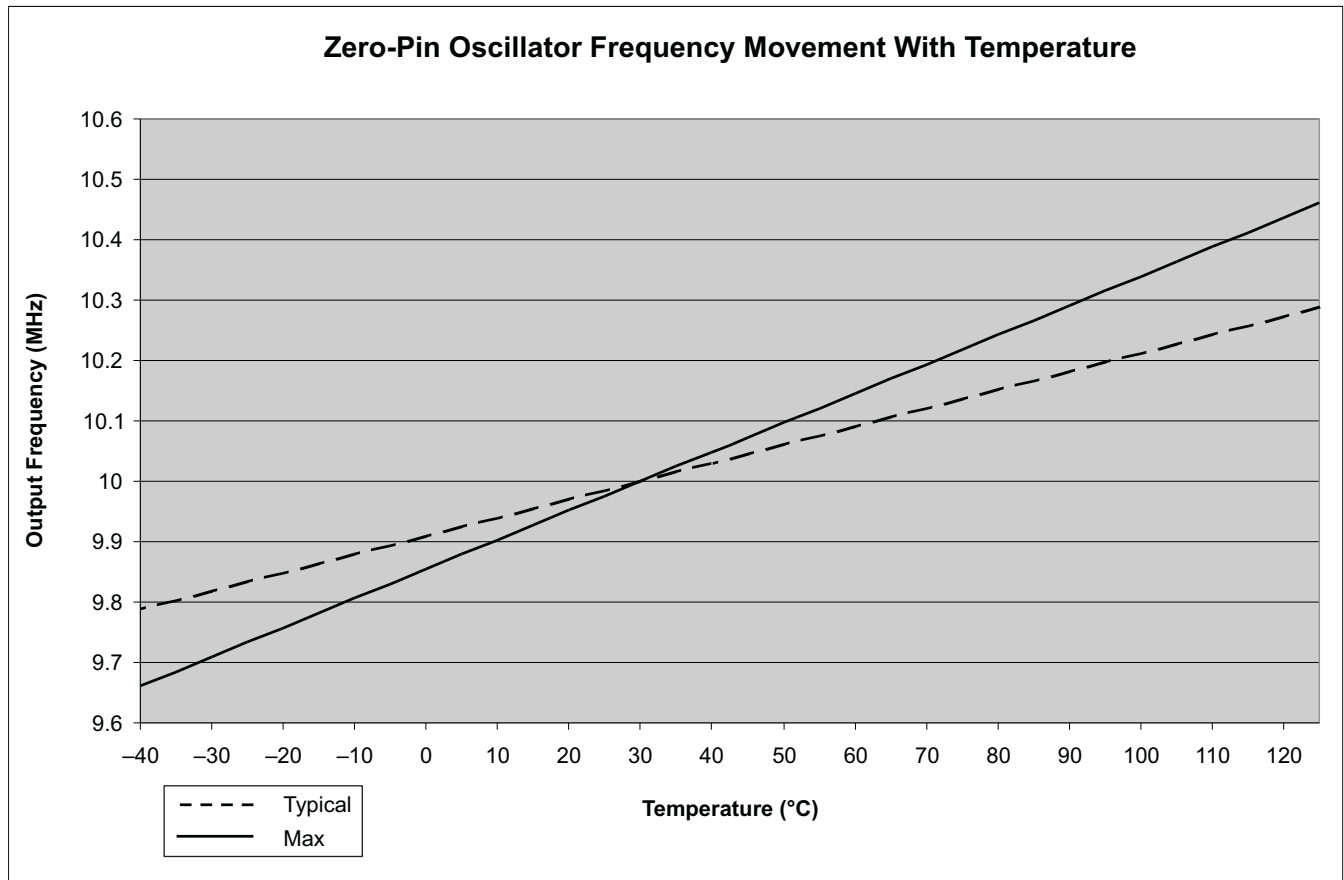

Figure 5-9. Zero-Pin Oscillator Frequency Movement With Temperature
- (1) In order to achieve better oscillator accuracy (10 MHz ± 1% or better) than shown, see the *Oscillator Compensation Guide Application Report (SPRAB84)*. Refer to Figure 5-9 for TYP and MAX values.
- (2) Frequency range ensured only when VREG is enabled, $\overline{VREGENZ} = V_{SS}$.
- (3) Output frequency of the internal oscillators follows the direction of both the temperature gradient and voltage (V_{DD}) gradient. For example: